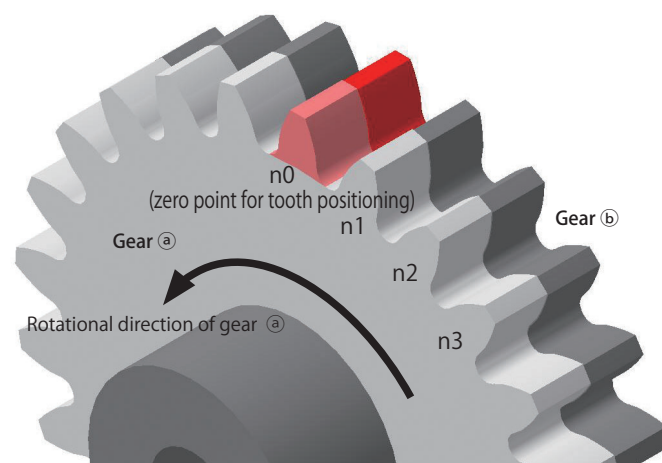

Fig. 2 Zero point for tooth positioning (n0)
② Zero point for tooth positioning (n0)
Considering the point at which the spring extends and the reference teeth of gear ① and gear ② align when gear ① is rotated with gear ② fixed as the zero point for tooth positioning (n0), use it as the reference position for setting the transfer torque. (Fig. 2)